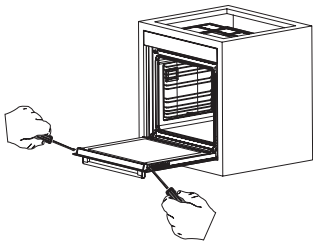
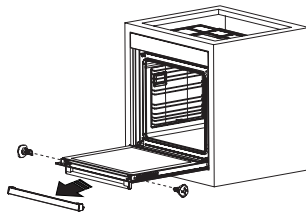
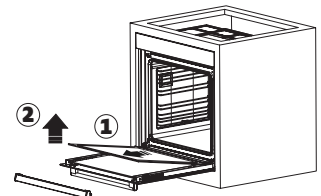

Figure 20
Figure 21
Figure 22
**2.** Remove the screws on the left and right side as shown in figure 20. Remove the profile by pulling it towards you as shown in figure 21. Glass is free after the profile is removed as shown in figure 22. Carefully pull the glass that has become free toward you. If necessary, the central glass can be removed in the same way. The outer glass is fixed to the oven door profile. You may easily clean the glass after it has been separated. Once the cleaning and maintenance is complete, you may replace the glasses and the profile by performing the removal procedure in reverse. Make sure that the glass is inserted in the correct direction and that the profile fits properly.